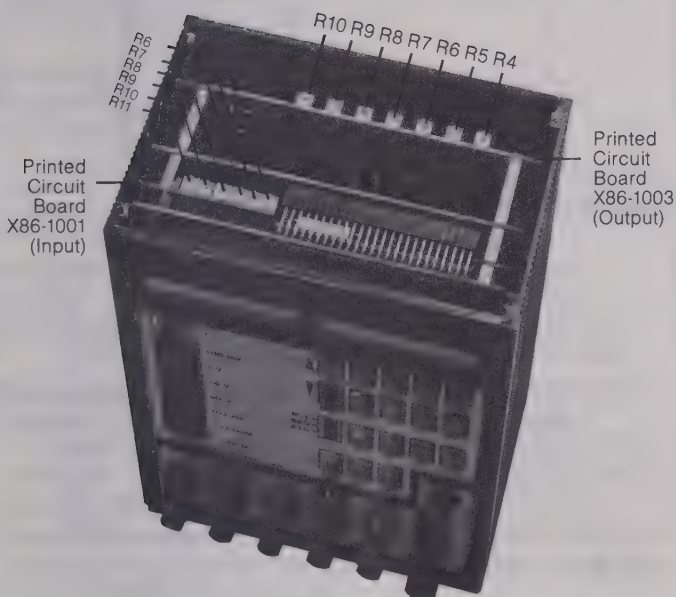

Figure 6-1
6.2.1 Adjustment Potentiometers: The five potentiometers used to calibrate the input are located at the top of PC board X86-1001 and the potentiometers used to calibrate the output are at the top of PC board X86-1003. These potentiometers are accessible when the top plate of the calibrator is removed. See Figure 6-1, which shows the location of the adjustment potentiometers.